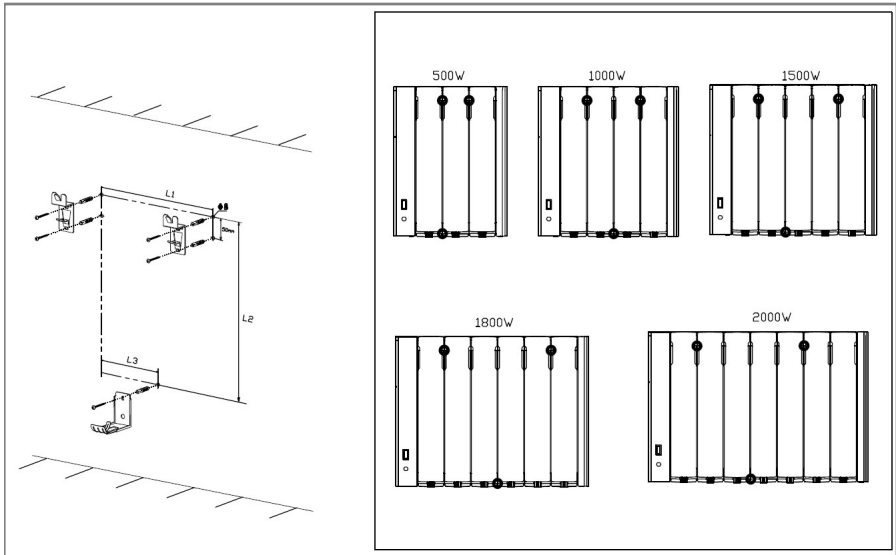

Figure 3 | Bracket positions on the radiator and wall
- Use the wall mounting screws to fix the brackets in place as per **Figure 3** and **Table** below.